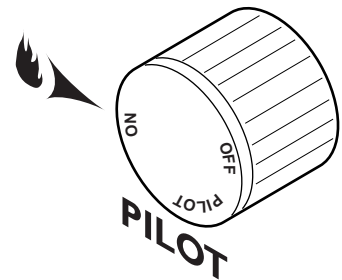

Figure 60 - On Position
Depress and turn the knob counterclockwise  to the “ON” position. *See Figure 60.* It will take less than four (4) seconds for the burner to ignite.